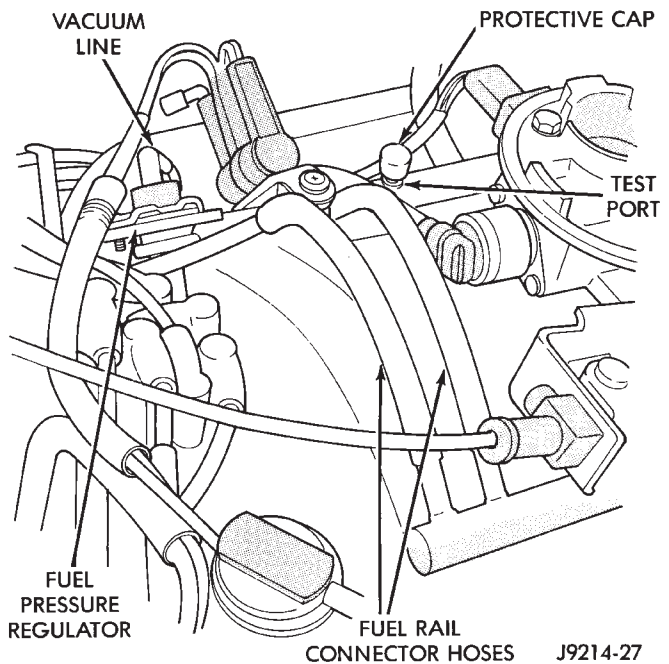

Fig. 10 Pressure Regulator Vacuum Line—Typical
- (7) Remove vacuum line at fuel pressure regulator (Fig. 10).